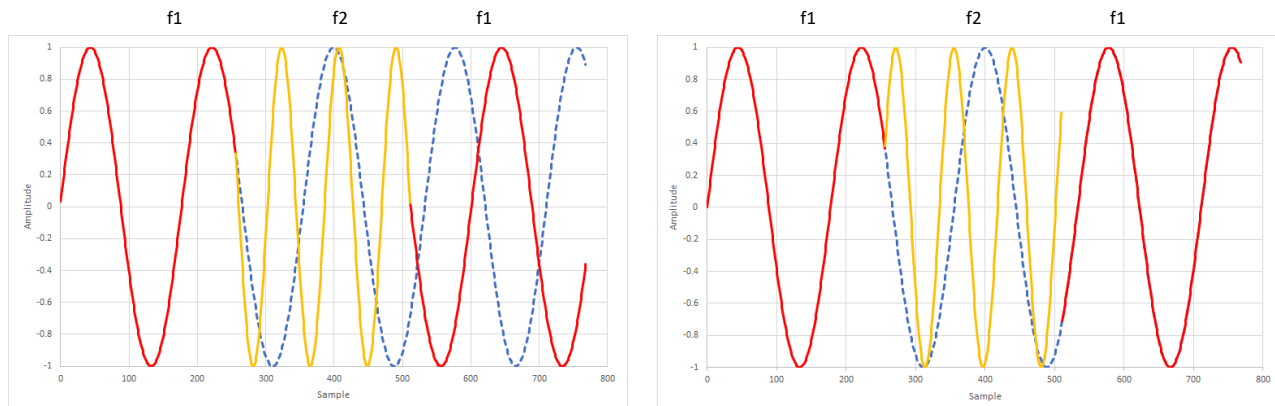

Figure 8-54. Phase Continuous (left) and Infinite Phase Coherent (right) NCO Frequency Switching
1. *Phase Continuous NCO* :During a NCO frequency change, the NCO phase gradually adjusts to the new frequency as shown in Figure 8-54 (left). The 'dashed' line shows the phase of original f_1 frequency.
2. *Infinite Phase Coherent NCO*: With a phase coherent NCO, all frequencies are synchronized to a single event using SYSREF. This enables an infinite amount of frequency hops without the need to reset the NCO as phase coherency is maintained between frequency hops. This is illustrated in Figure 8-54 (right). When returning to the original frequency f_1 the NCO phase appears as if the NCO had never changed frequencies.